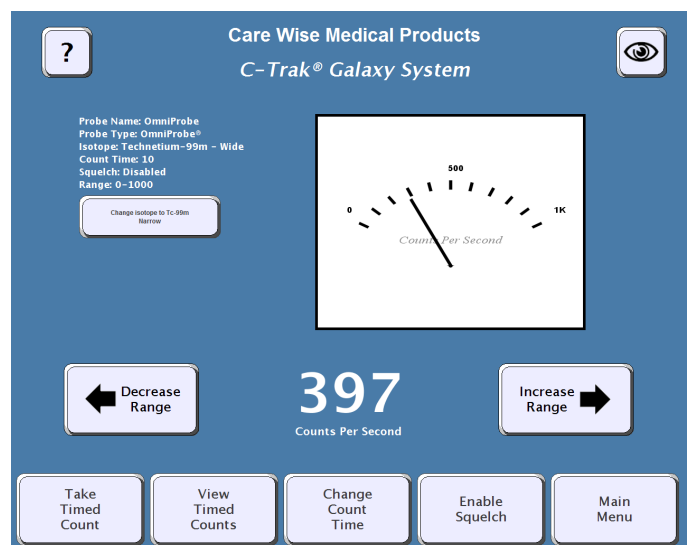

Figure 5 – Count Screen with Analog Meter
(1) Rate Meter Display
- There are three versions of the RATE METER DISPLAY. The default, shown in Figure 4, uses a wedge-shaped indicator to show the amount of radiation detected. The other two versions of the RATE METER DISPLAY are an analog indicator and a histogram of counts per second over time. These are shown in Figures 5 and 6 respectively.
- (2) **Counts per Second Display** – This numerical display indicates the number of photons detected by the gamma probe per second.
- (3) **Range Controllers** – The DECREASE RANGE and INCREASE RANGE controllers are used to adjust the range of counts per second displayed. Ranges of 0-100, 0-1,000, 0-10,000, and 0-100,000 are available.
- (4) **Take Timed Count Button** – Pressing this button begins a timed count for the current duration. While timed counts are underway, they are viewed on the TAKE TIMED COUNTS SCREEN. Details are in 2.4-2.
- (5) **View Timed Counts Button** – Pressing this button allows the user to view any data for timed counts already taken. Details are in 2.4-3.
- (6) **Change Count Time Button** – Pressing this button allows the user to change the duration of timed counts. Details are in 2.4-4.
- (7) **Enable Squelch and Disable Squelch** – Pressing "Enable Squelch" will activate the squelch feature. When squelch is active, this button displays "Disable Squelch" and pressing it will deactivate the squelch feature.